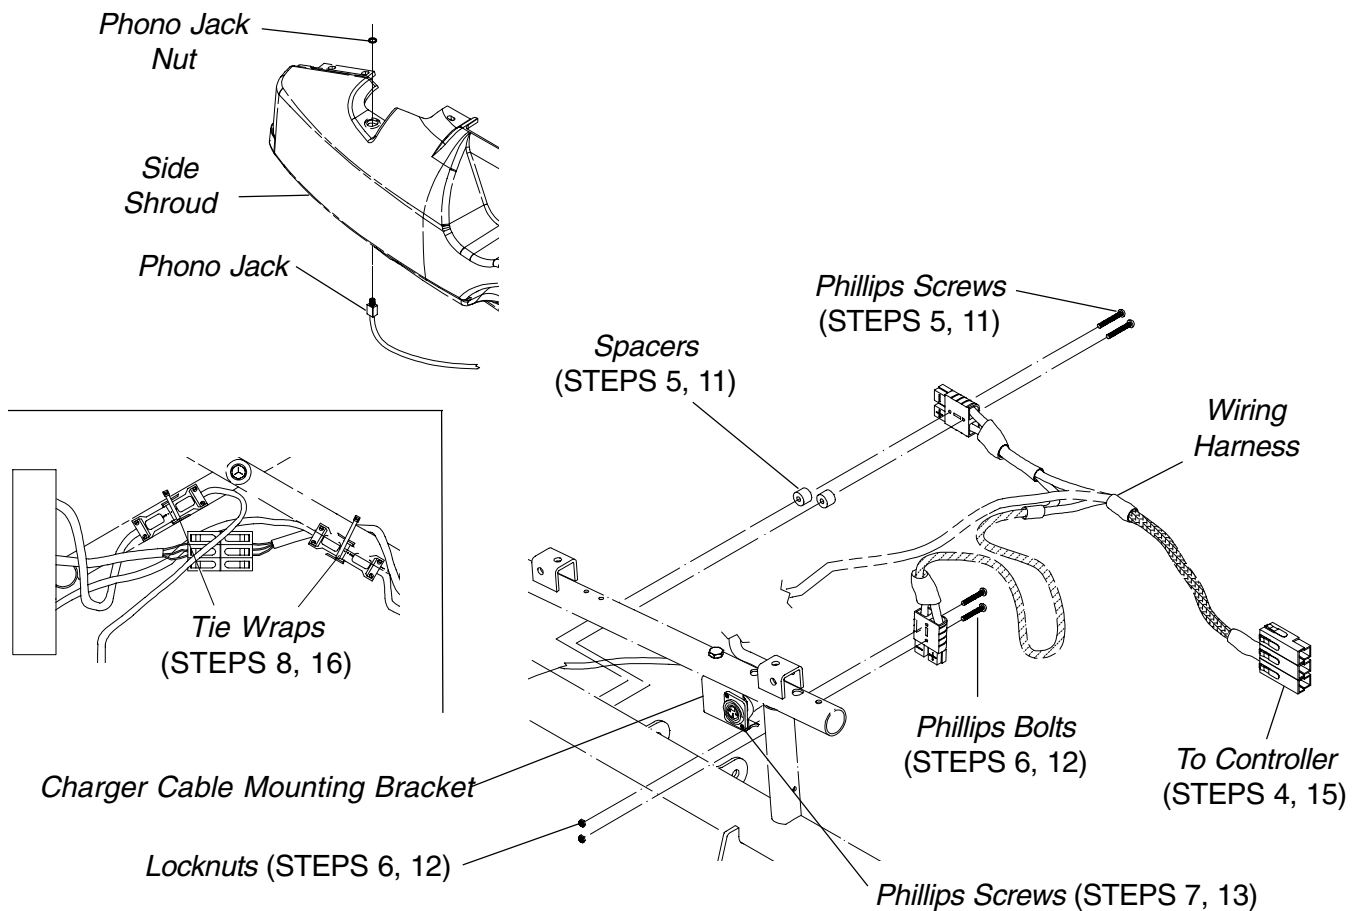

FIGURE 18 - REPLACING WIRING HARNESS - 16, 18, AND 20-INCH WIDE MODELS
REPLACING WIRING HARNESS (FIGURE 18)
5. Remove the two (2) phillips screws and spacers that secure the rear battery connector to the wheelchair frame.
6. Remove the two (2) phillips bolts and locknuts that secure the front battery connector to wheelchair frame.
7. Remove the two (2) phillips screws that secure the wiring harness to the charger cable mounting bracket.
11. Position the rear battery connector of the new wiring harness on the wheelchair frame as shown in FIGURE 18 and secure with the two (2) phillips screws and spacers.
12. Position the front battery connector on the wheelchair frame as shown in FIGURE 18 and secure with the two (2) phillips bolts and locknuts.
13. Secure the wiring harness to existing charger cable mounting bracket on the seat frame with the two (2) phillips screws.